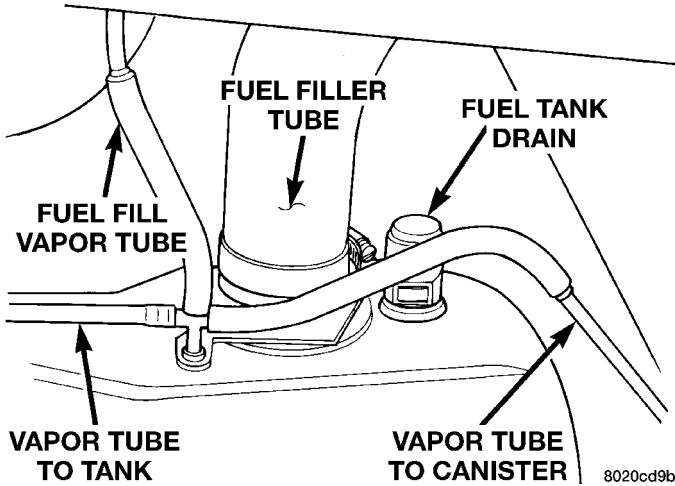

Fig. 33 Fuel Filler Tube and Vent Tubes
- (5) Disconnect the fuel tube from Fuel Filter/Regulator. Refer to Quick Connect Fittings in the Fuel Delivery section of this group.
- (6) Support tank with transmission jack. Loosen tank mounting straps and lower tank slightly.
- (7) Disconnect fuel filler tube and filler vent tube from filler hose at fuel tank (Fig. 33).